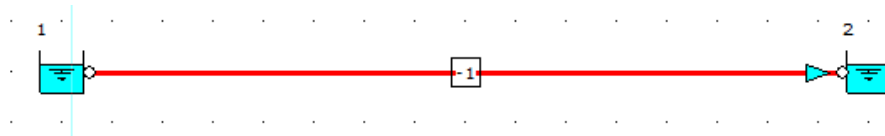

Figure 36: Hydraulic Model with Modified Draw Thickness and Draw Color.
39. The hydraulic model should now look like the screenshot given below (Figure 36).